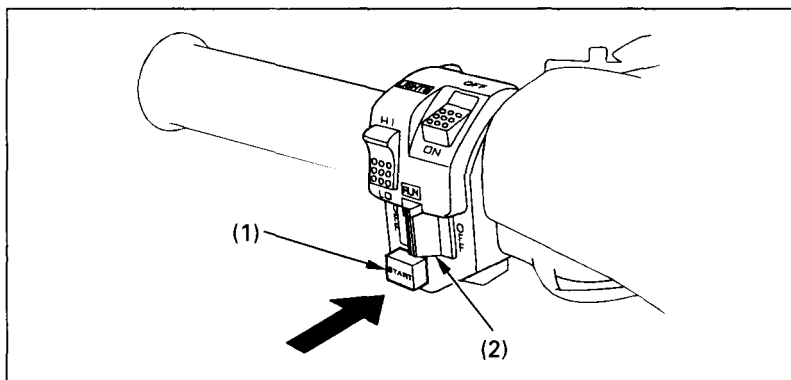

Fig. 2-7
The starter button (Fig. 2-7) is below the engine stop switch. To start the engine, press the starter button (1), with the transmission in neutral, the ignition switch ON and the engine stop switch at RUN.